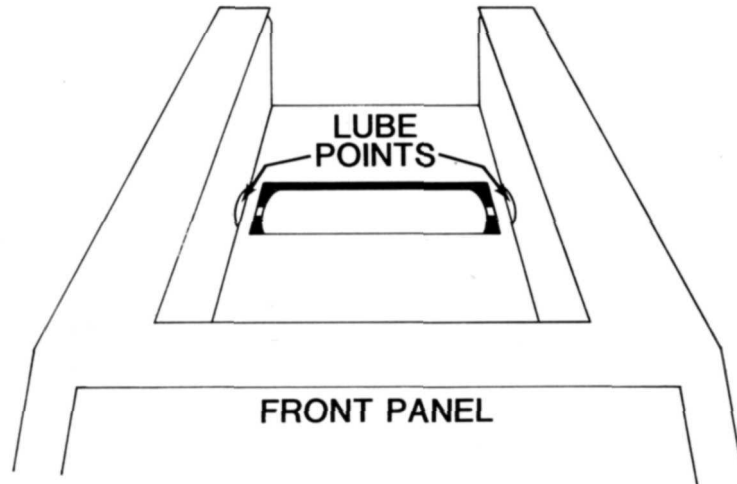

Figure 17. Drive Roller Bearings
7. Lubricate the drive roller bearings (Figure 17) using a pressurized oil can with an extension tube to reach the bearings surfaces.